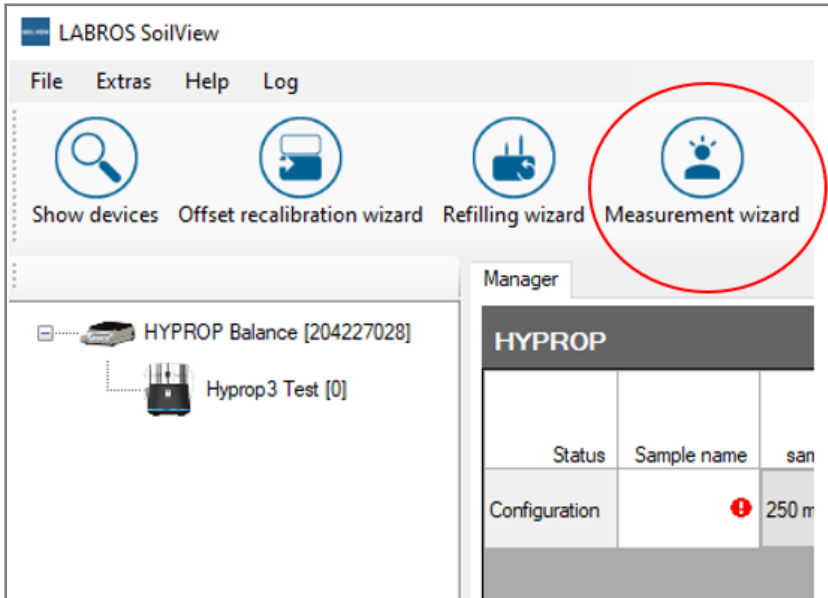

Figure 54 Measurement Wizard icon
1. Open the Wizard by clicking on the **Measurement Wizard** icon (Figure 54).